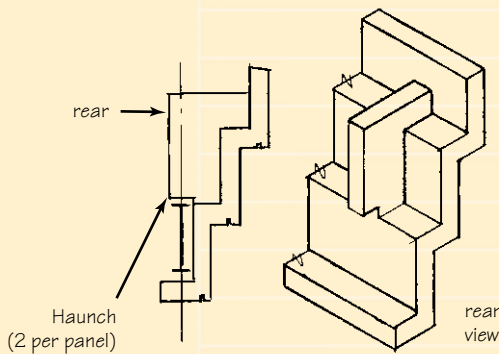

Fig. 3-7A
- Created so large that it requires special support. For instance, a steel structure may require bracing to prevent rotation of structural members (as in Figs. 3-7A, 3-7B and 3-7C).